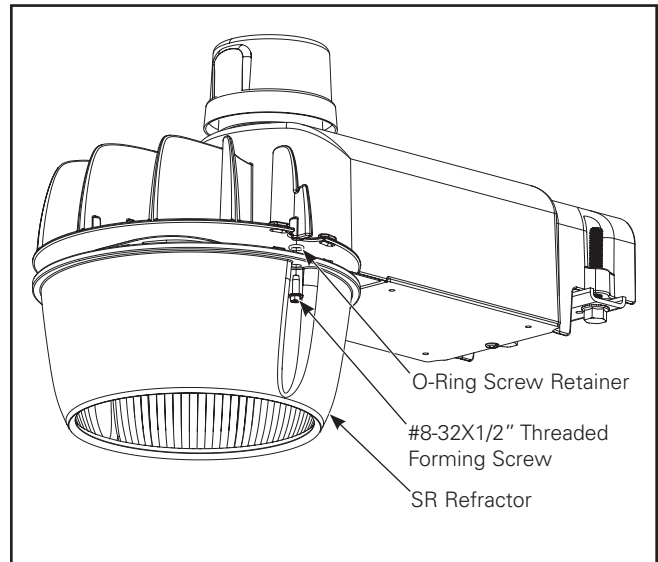

Figure 2.
2. Center refractor to luminaire housing and align refractor thru-holes to die-cast housing mounting holes. (Figure 2.)